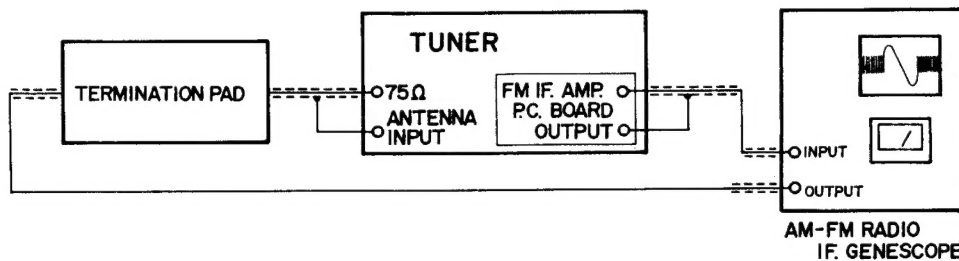

Fig. 9
- 1) Connect the GENESCOPE lead wires to the 75Ω ANTENNA TERMINALS of the tuner as well as to the FM IF Amp. P.C. Board OUTPUT as shown in Fig. 9.